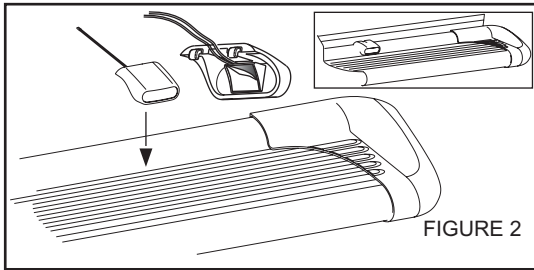
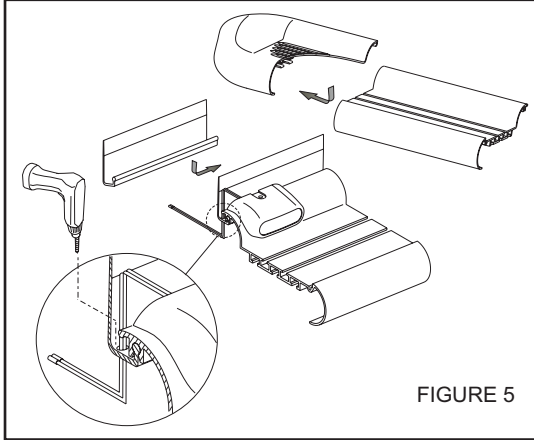

FIGURE 2
FIGURE 5
- STEP 5. For Sure Grip Running Boards, slide closure strip as shown. Set lights (if purchased) in appropriate location. Attach to Sure Grip Running Board as shown. **SEE FIGURE 2.** Drill hole through plastic strip and run wires as shown. **SEE FIGURE 5.**